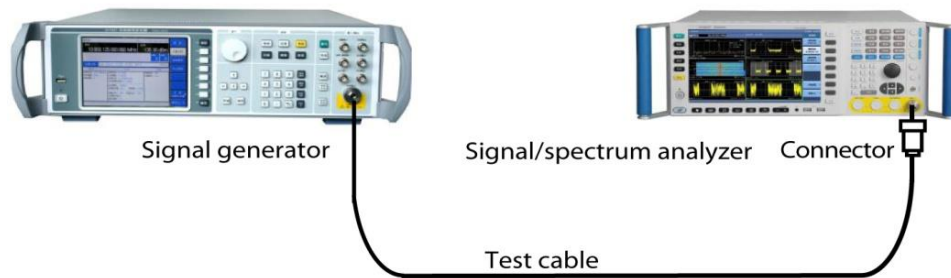

Fig 4.61 Connection Settings of Channel Power Measurement
Step 2. Connect the radio frequency output port of the signal source to that of the analyzer. As shown in Fig. 4.61: